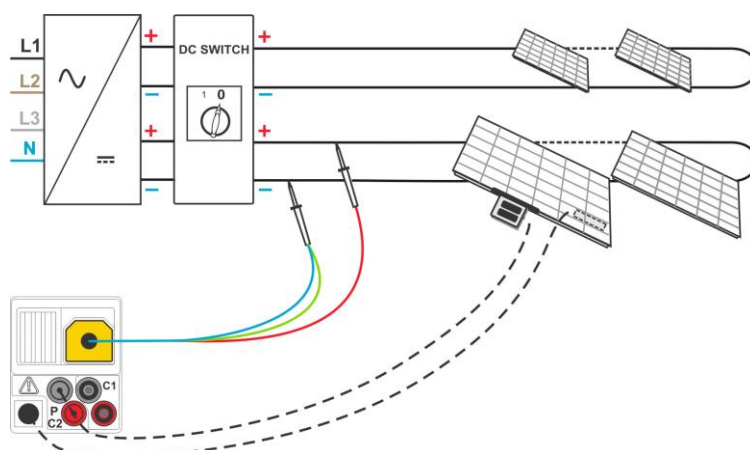
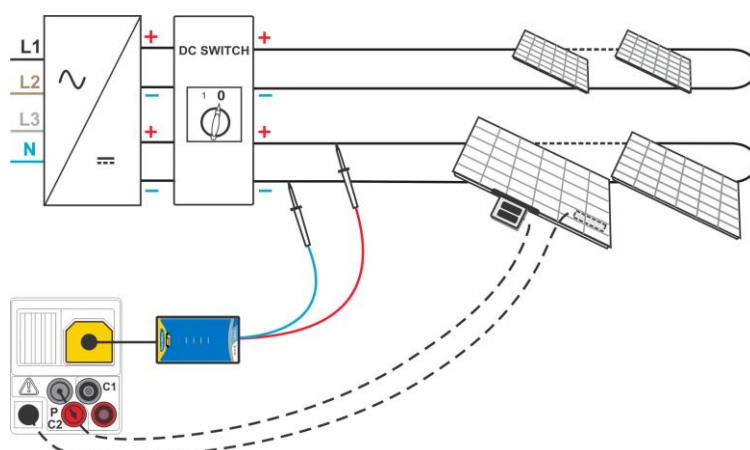

Figure 5.39: Connection with universal PV test lead
Figure 5.40: Connections with PV safety probe
- ❑ **Connect** accessories to the item to be tested (see **Figure 5.39** and **Figure 5.40**).